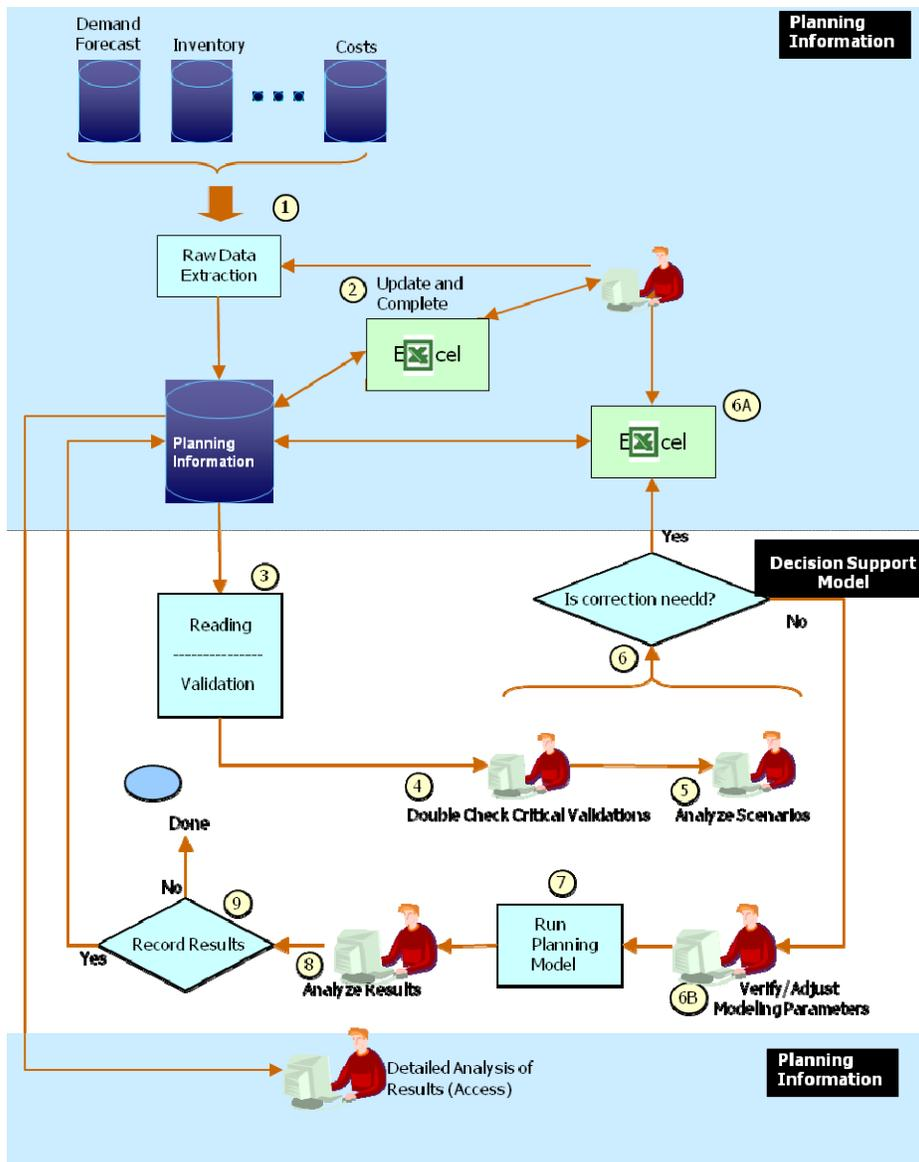

Figure 5: Step by step planning process.
- Figure 5 depicts a detailed planning process and shows users and activities.